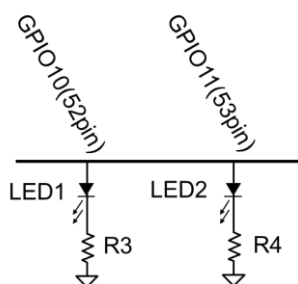

Figure 2-9 Example of using the LED that shows the TX/RX status of R9A06G037
- Figure 2-9 shows an example of using the LED that shows the transmission / reception status of R9A06G037.